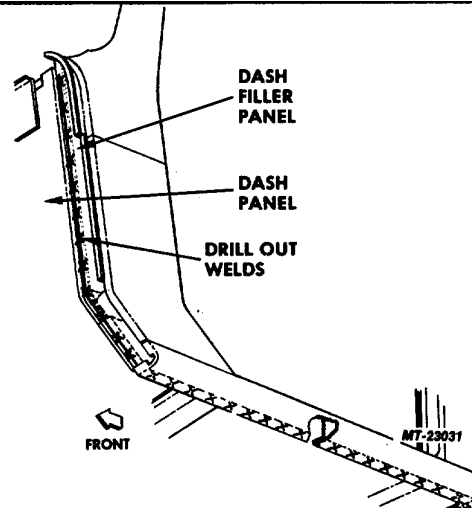

Fig. 42. Filler Panel to Dash Panel Spot Welds
6. Drill out spot welds at seam between dash filler panel and dash panel. Separate filler panel from dash panel (Fig. 42).